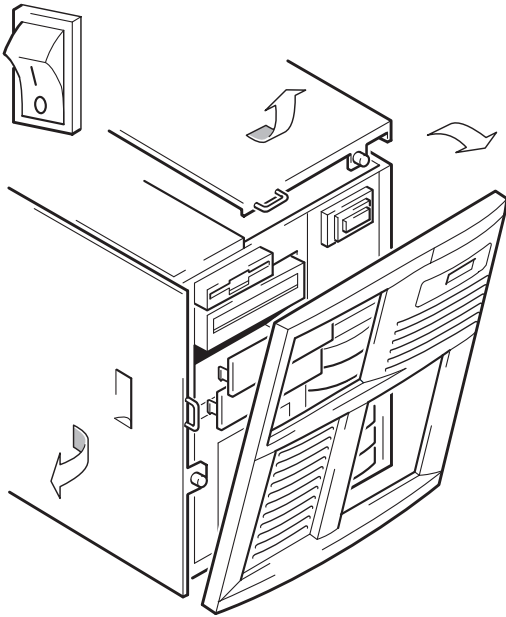

Figure 2a: preparing mounting bay in a typical HP server
- 3** Remove the computer's cover (as shown in figures 2a to 2d) and front panel (as detailed in your computer's documentation).